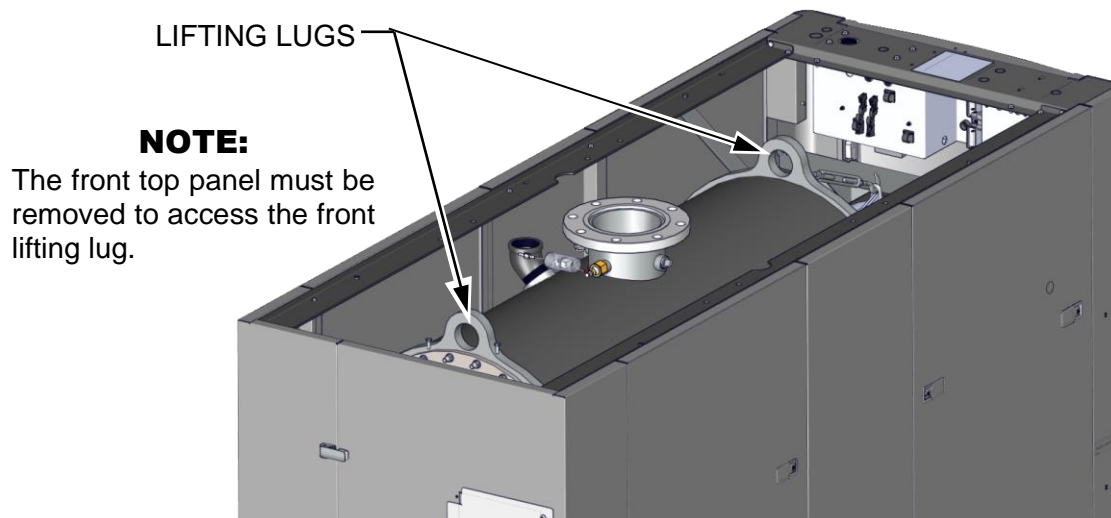

Figure 2-4c: Lifting Lug Locations – BMK5000 & 6000
Two (2) lifting lugs are provided at the top of the primary heat exchanger (see Figure 2-4c). The location of the lifting tabs is marked on the shrink-wrap coving the unit for shipping.